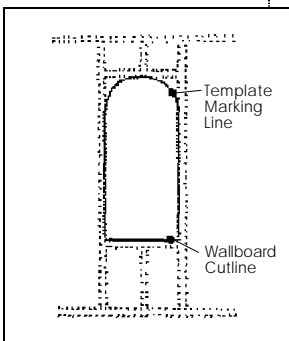

Figure 2
- Mark wallboard along line just above bottom horizontal brace between studs. (figure 2)
- Using face of niche as a template, trace cutline on wall, position bottom to rest on horizontal brace. Then cut wallboard. (figure 2)